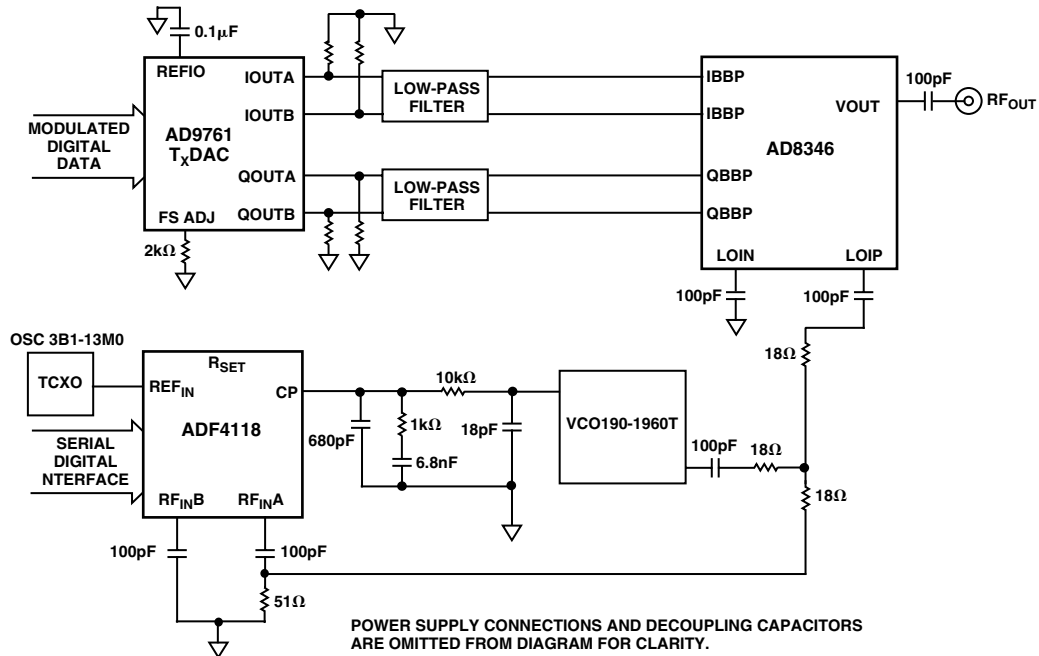

Figure 9. Direct Conversion Transmitter Solution
In some applications a direct conversion architecture can be used in base station transmitters. Figure 9 shows the combination available from ADI to implement this solution.
The Local Oscillator (LO) is implemented using the ADF4117/ADF4118. In this case, the OSC 3B1-13M0 provides the stable 13 MHz reference frequency. The system is designed for a 200 kHz channel spacing and an output center frequency of 1960 MHz. The target application is a WCDMA base station transmitter. Typical phase noise performance from this LO is  $-85\ \text{dBc/Hz}$  at a 1 kHz offset. The LO port of the AD8346 is driven in single-ended fashion. LOIN is ac-coupled to ground with the 100 pF capacitor and LOIP is driven through the ac-coupling capacitor from a  $50\ \Omega$  source. An LO drive level of between  $-6\ \text{dBm}$  and  $-12\ \text{dBm}$  is required. The circuit of Figure 9 gives a typical level of  $-8\ \text{dBm}$ .
The RF output is designed to drive a  $50\ \Omega$  load but must be ac-coupled as shown in Figure 9. If the I and Q inputs are driven in quadrature by 2 V p-p signals, the resulting output power will be around  $-10\ \text{dBm}$ .